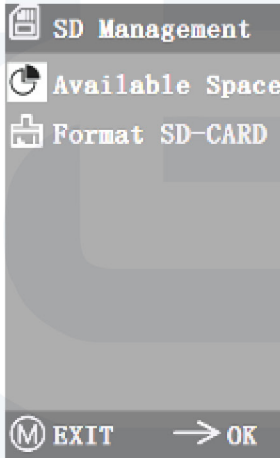

Figure 5-15
- After inserting the micro SD card, the remaining space and total space of the micro SD card can be seen in "Available Space", as shown in Figure 5-15